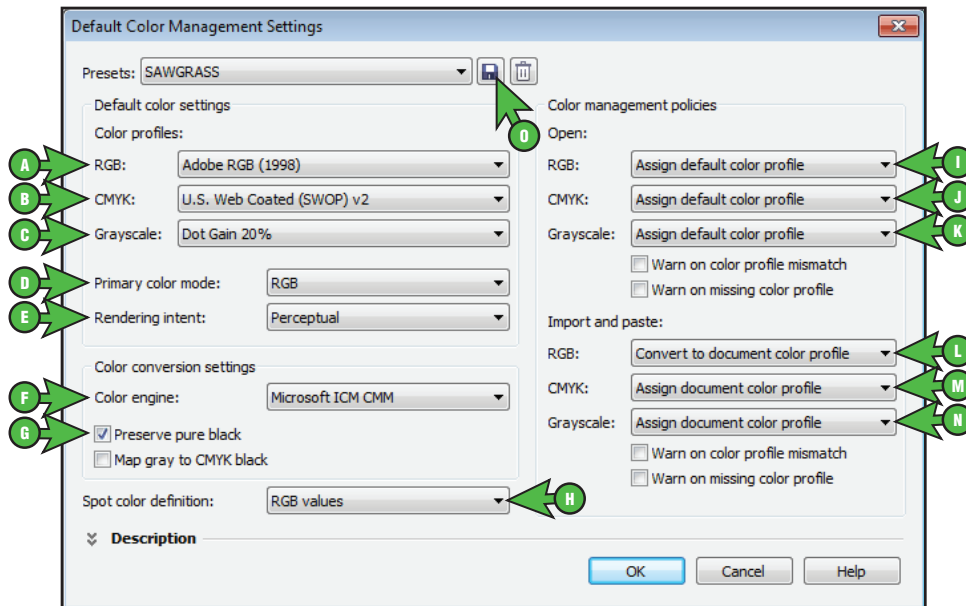

FIGURE 4
4.) The Default Color Management Settings window should now be open. Match your settings to the ones shown below: (see FIGURE 4)